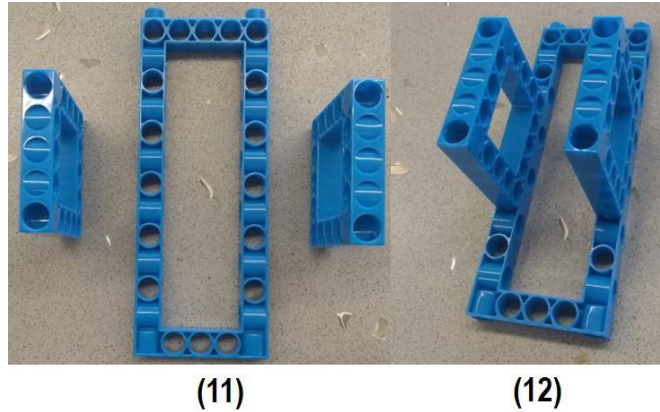

Figure 4: The fulcrum of the lever
The third module you'll build is the fulcrum. Follow the steps (11), (12) shown in the figure 4.